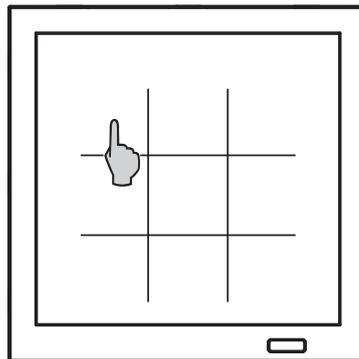
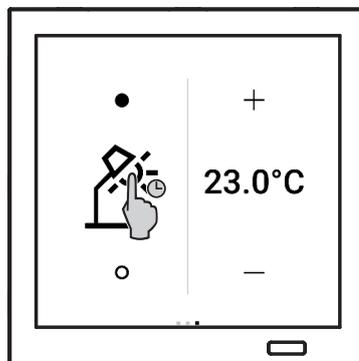

Fig. 8: Displaying area/function
Fig. 9: Displaying function
- Select area icon (fig. 8) in the main menu.
- Select function icon (fig. 8) in the respective area or tap and hold it in the favourites (fig. 9).